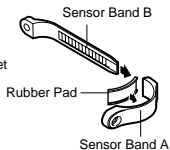
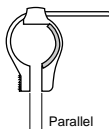

Fig. 15
Fig. 16
1. Insert the band B into the slit of the band A, and put the rubber pad inside of the band A (Fig. 15). Adjust the length in order that the screw-fastening part of the bands are parallel when mounted to the fork (Fig. 16). *To pull out the band B from the band A, tug strongly.